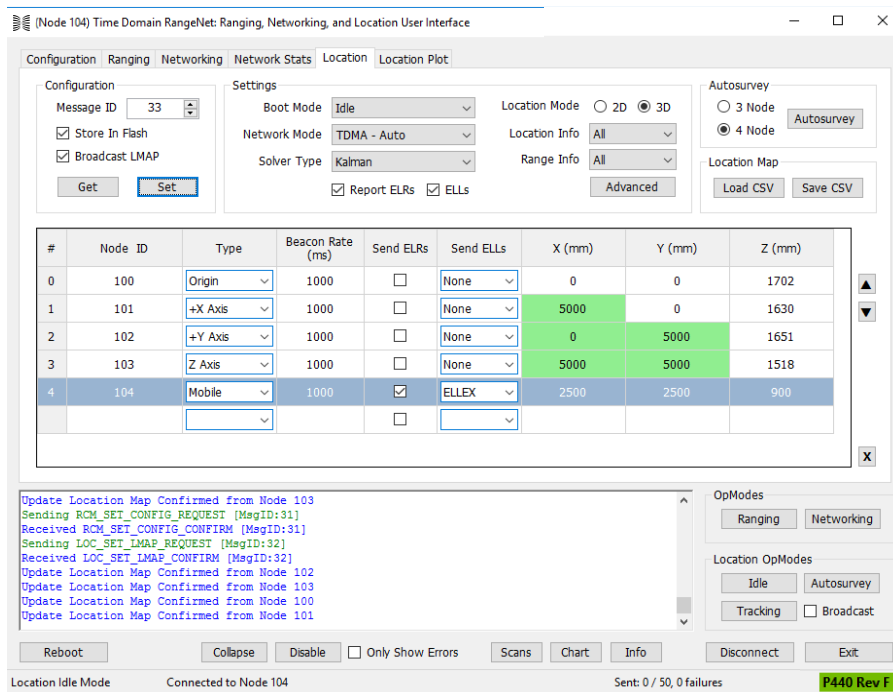

Fig. 22: Messages confirm all units are ready
- Check that all units are online.** Confirm that the Broadcast box in the lower right has a check mark. If not, then click on the box. Click the **Idle** button in the lower-right. This will broadcast a message to all units ordering them to go to the Idle state. They will then send confirming messages. Observe the messages in the lower part of the screen. You should see a “Change NavNet Mode Confirmed from Node ...” message from each of the other units in the system. If one or more is missing, check the battery and repeat **Step 2** for each missing unit. This is illustrated in **Figure 22**.